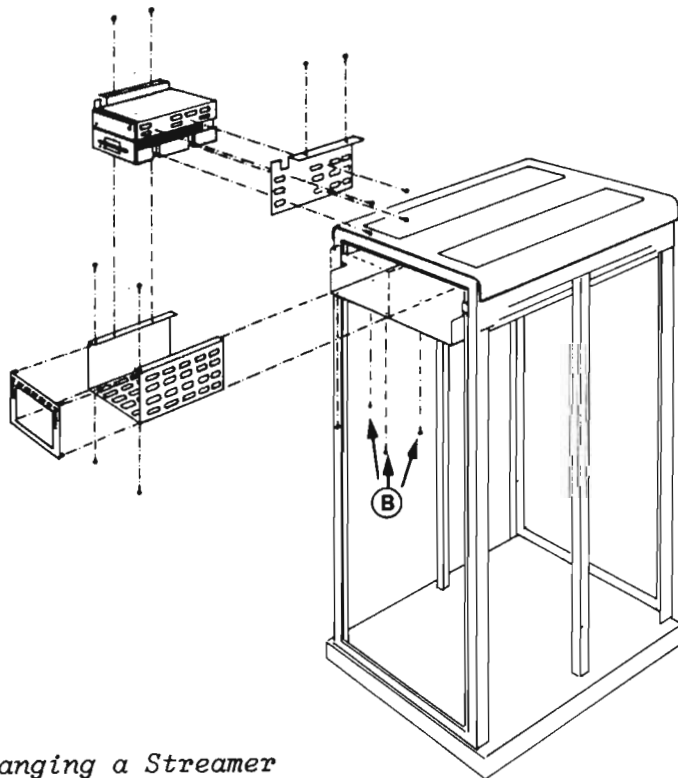

Figure 27. Changing a Streamer
3. Unscrew the four screws (B) holding the streamer housing, and pull the housing out.
4. Disassemble the streamer housing and replace the streamer (see fig. 27)